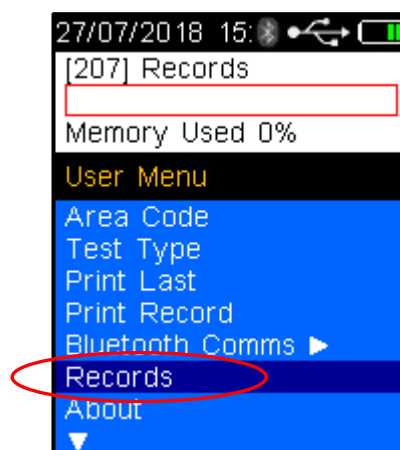

Figure 54 – Records
- Using the down button, scroll down to *Records* (Refer to Figure 54 – Records Figure 54).